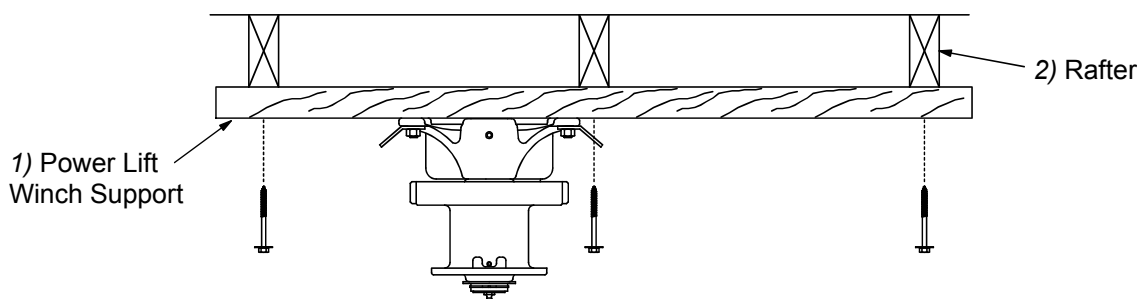

Figure 5. Mounting the Power Lift Winch and Support to the Rafters
2. Attach the Power Lift Winch Support (with the Power Winch secured) to the ceiling at the center of the feeder line. See **Figure 5**. The Power Lift Winch Support must be parallel to the feeder line and must span at least 3 rafters in a wood frame house and 2 rafters in a steel frame house.